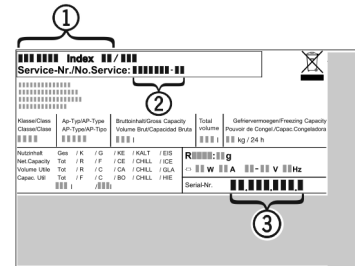

Fig. 10
- ▶ Read the appliance designation *Fig. 10 (1)*, service No. *Fig. 10 (2)* and serial No. *Fig. 10 (3)* off the model plate located inside the appliance on the left-hand side.
- ▶ Notify the customer service, specifying the fault, appliance designation *Fig. 10 (1)*, service No. *Fig. 10 (2)* and serial No. *Fig. 10 (3)*.